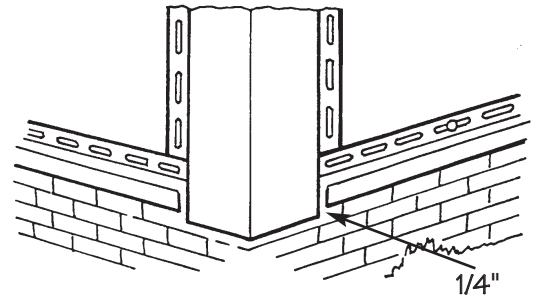
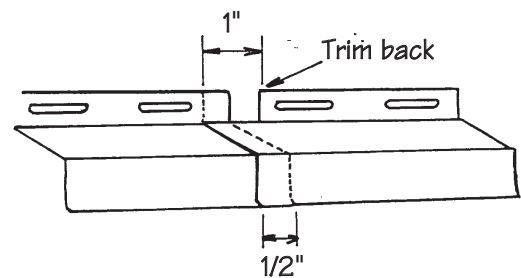

Figure 47.
Figure 48.
- Fasten every 8" to 12". Use the center of the nail slots. All vinyl should be fastened securely but not tightly. Sideways movement should not be restricted. Leave 1/4" gaps at the corner posts (Fig. 47). Where lengths adjoin, trim the nailing flange 1" and overlap 1/2" to produce a neat joint (Fig. 48).